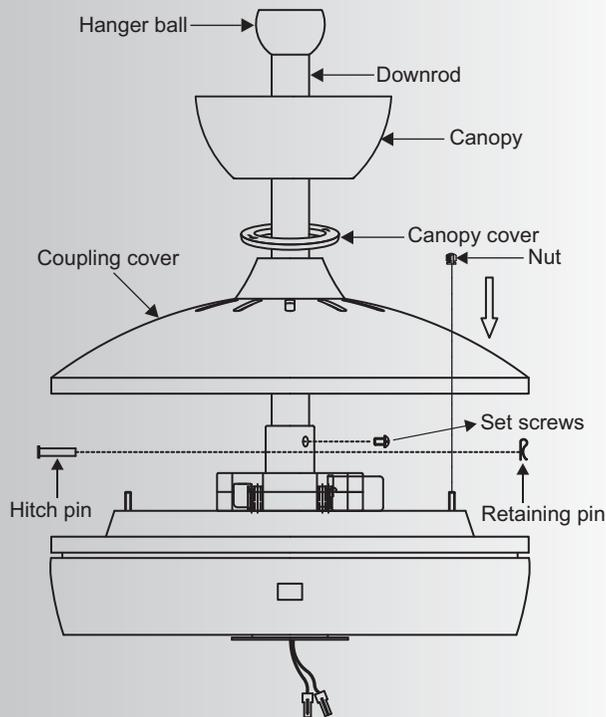

Fig. 10
Step 10. Slip the coupling cover, canopy cover and canopy onto the downrod. Secure the coupling cover to the motor housing using the two nuts previously removed.(Fig. 10)